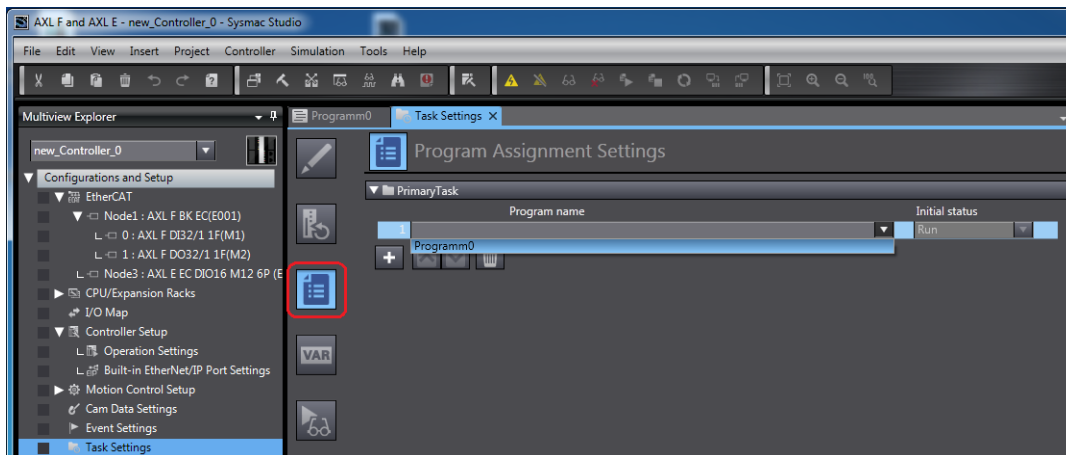

Figure 2-24 Selecting the program
- Switch to the “Program Assignment Settings” (see highlighted icon in Figure 2-24).